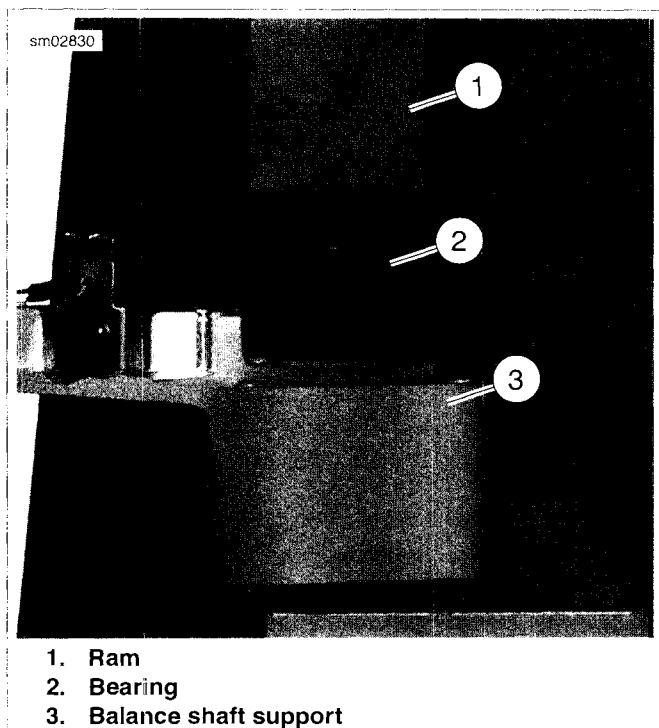

Figure 3-165. Removing Bearing from Shaft Support
3. See Figure 3-165. Place housing (3) on a suitable support with top surface facing up.
4. Place bearing remover end of BALANCE SHAFT SUPPORT BEARING REMOVER/INSTALLER (Part No. HD-48474) (2) over bearing.
5. Center bearing remover under ram (1) of press. Slowly lower ram to remove bearing.